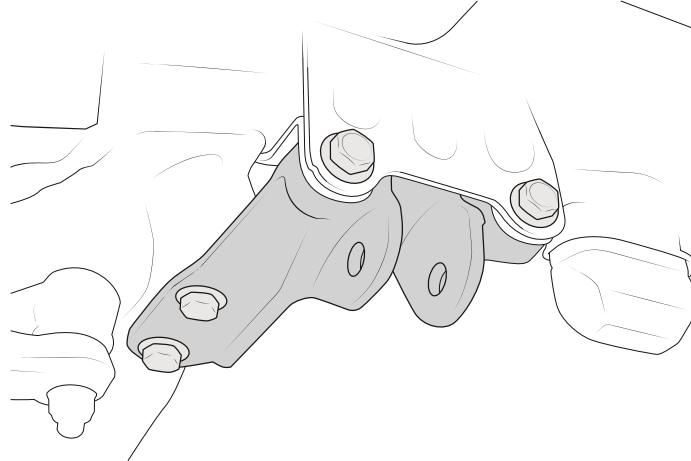

Figure 22
A. Remove factory frame-side track bar bracket from frame. **SAVE** hardware and discard bracket (fig. 22).